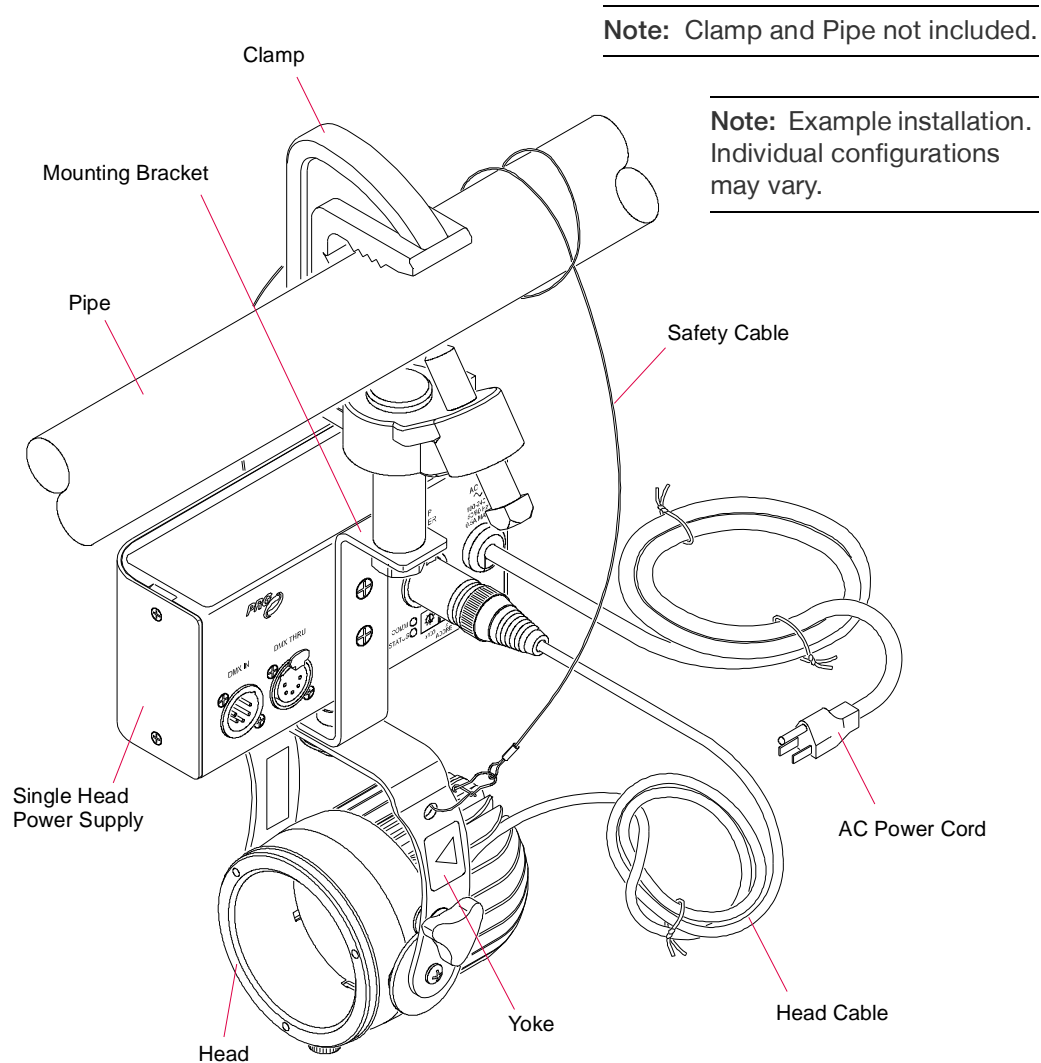

Figure 2: Unified Mounting Example
- Step 3. Attach Safety Cable as shown in Figure 2.